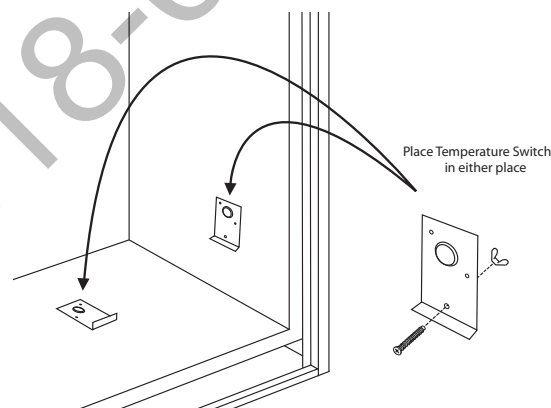

Fig. 3 Mounting Temperature Sensor
2. Place the temperature sensor bracket into location. Using the bolt and wing nut, tighten against the metal surface. (See Fig. 3)